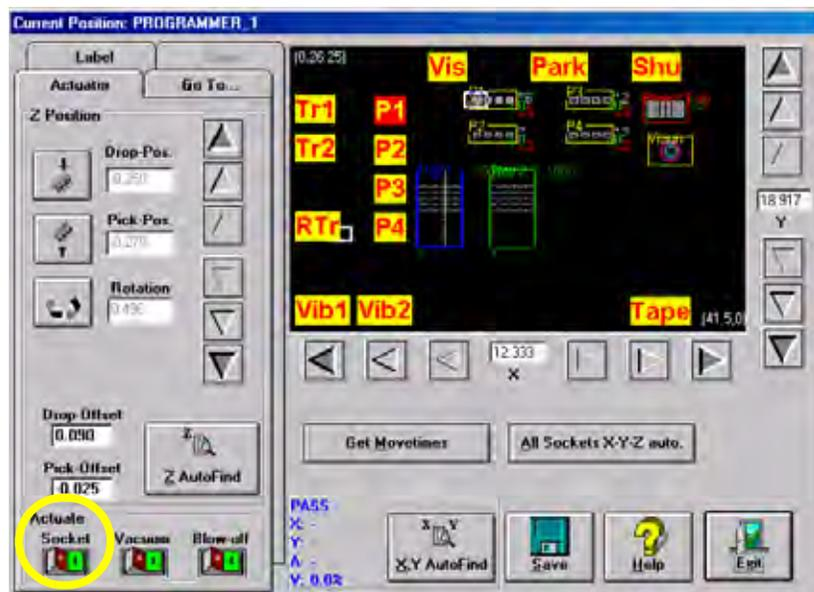

*Figure 5-40—Port 1, Bit 1 LED illuminated*
- 2b) Move the up sensor upwards until the green I/O Controller LED for Port 1, Bit 1 illuminates. See *Figure 5-40*.